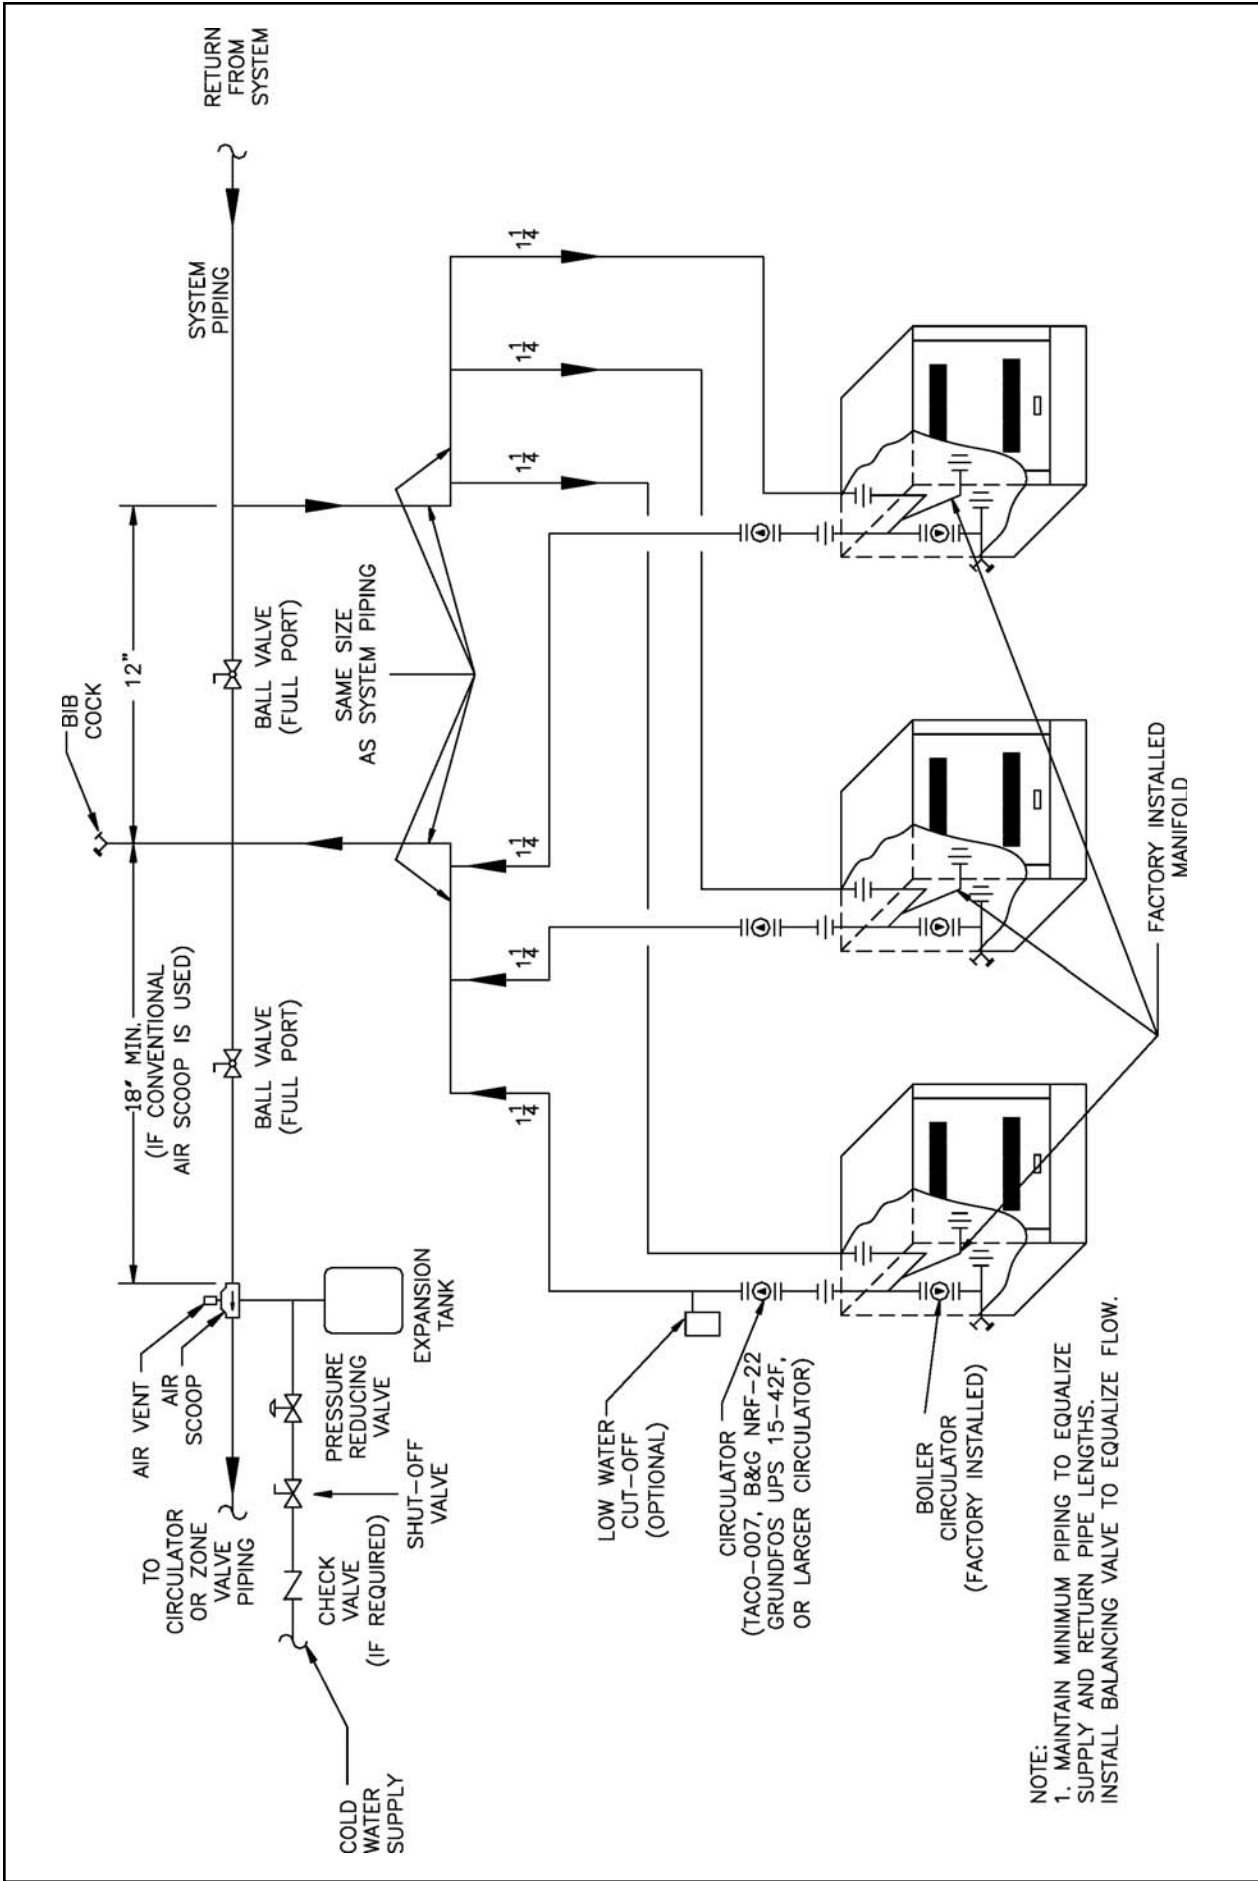

Figure 43: Modular Boiler Piping
1. Refer to Figures 43 and 44 and Table 9 for installation details and common water pipe sizing.
2. The internal water manifold (inside the boiler jacket) can be retained for all boiler sizes. Size common water piping based on combined boiler input using Table 9. Pipe boilers as shown in Figures 43 or 44.